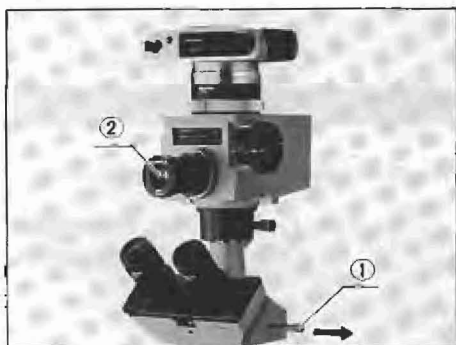

Fig. 27
- 1) Each of these attachments can be mounted on the photo tube of the trinocular tube as photographed in Fig. 27. (Fig. 27 shows the PM-10AK on the trinocular tube.)
- 3) Pull out the light path selector lever ① to deflect the light to the photo tube. (Fig. 27)
- 4) Looking through the focusing telescope ②, focus on the specimen. (Fig. 27)